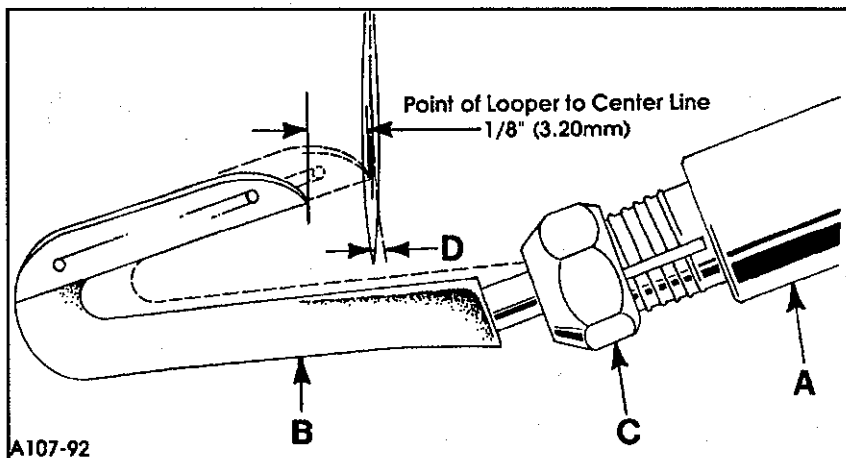

Fig. 8
Remove the throat plate and the feed dogs. Turn the handwheel in operating direction until the lower looper shaft (A, Fig. 8) is at its extreme left travel. Insert lower looper (B) and snug nut (C) just enough so the looper can still be moved. Position the looper so the distance from the point of the looper to the centerline of the needle is 1/8" (3.18mm). Looper gauge 21225-1/8 may be used to make this adjustment.
Tighten nut (C, Fig. 8) and recheck the above settings.